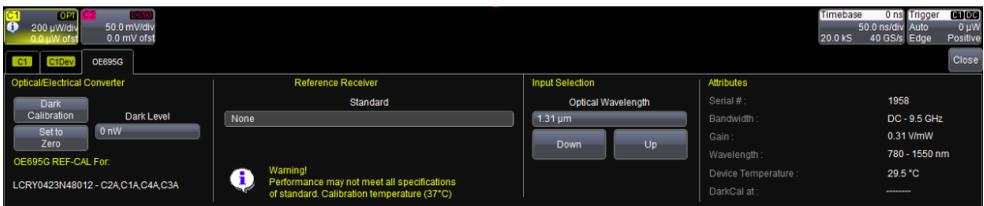

Figure 1: OE695G tab of the oscilloscope’s Channel dialog.
- An **OE695G tab** for controlling the converter is added to the Channel dialog (Figure 1)
Figure 1 shows the oscilloscope user interface menu for the OE695G converter. The dialog allows for the selection of the converter’s Dark Calibration, Reference Receiver selection and Optical Wavelength selection functions.